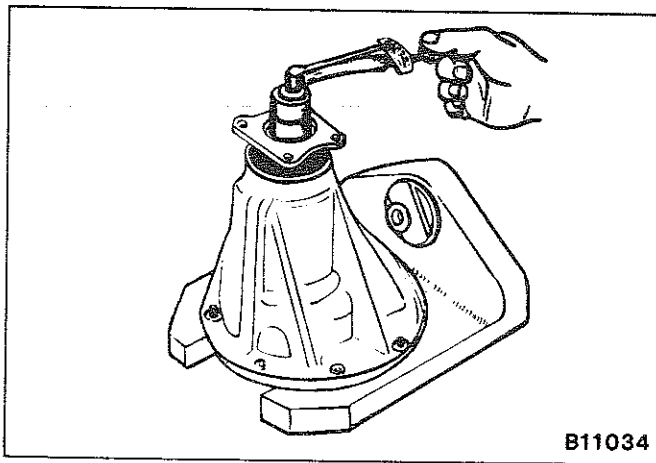

Fig. 23—Checking drive pinion preload
(8) Place the pinion into the housing then install the bearing preload spacer and shims, outer bearing (lubricated), yoke and nut onto the pinion shaft.
(9) Tighten the nut to the specified torque and with the assembly held upward check the bearing preload using a suitably calibrated tension wrench, (Fig. 23). Take the reading with the handle "floating" through several revolutions.
(10) If the preload has been adjusted without the oil seal installed, install the oil seal, reassemble the pinion